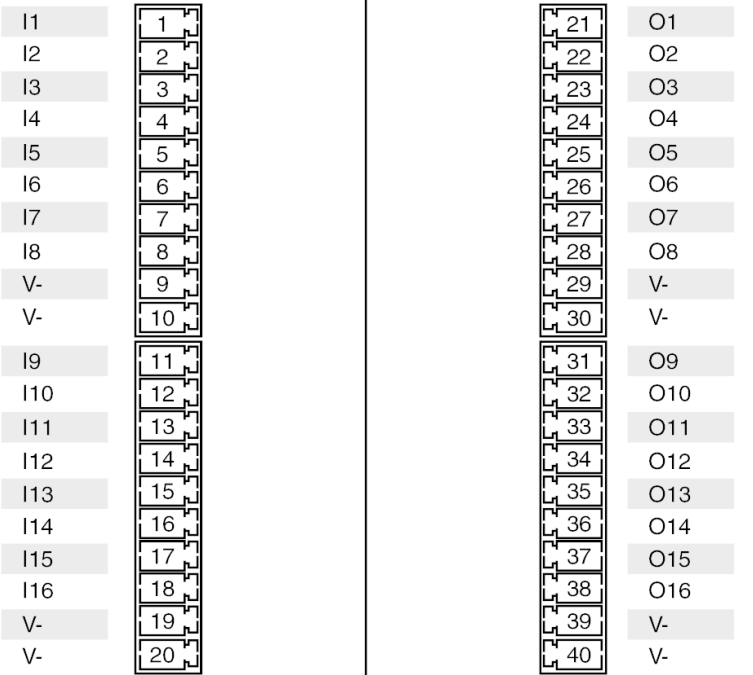
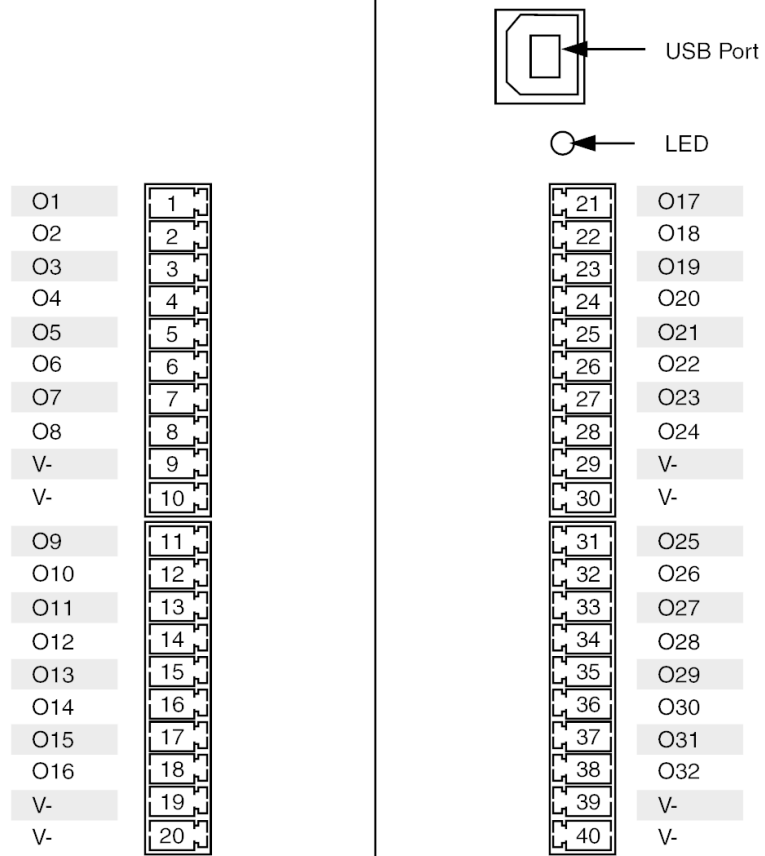

Figure 3 U2121A Pin Assignment
Figure 5 U2123A Pin Assignment
This chapter will discuss more on the terminal blocks connection and application examples. The terminal blocks provided with the products are the pluggable type (3.5 mm pitch) terminal blocks which greatly ease wiring effort and installation. Each terminal block has 10 connection points inclusive of eight IO and two connection points allocated for external GND (V-) or return path. In other words, every terminal block is defined as a single channel with eight IO terminal connections. See Figure 3 - Figure 5.
- **U2121A** 16-Terminal Digital Input & 16-Terminal Digital Output (Figure 3)
- **U2123A** 32-Terminal Digital Output (Figure 5)